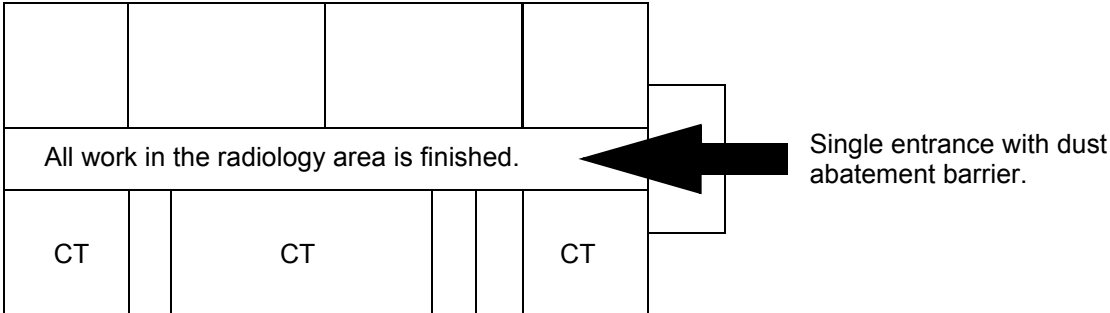

Figure 2-1 Full construction site with completed radiology area
- Scan suite access limited to a single entrance (see Figure 2-1).